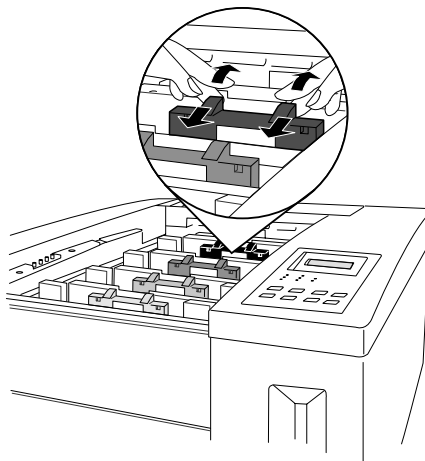

Fig. 6.2 *Release the Developer Cartridge*
5. Release the developer cartridge from its securing latches by pressing back on the latches while pulling forward on the cartridge (fig. 6.2). The securing latches are color coded (black, cyan, magenta, or yellow) to the color of the developer cartridge.